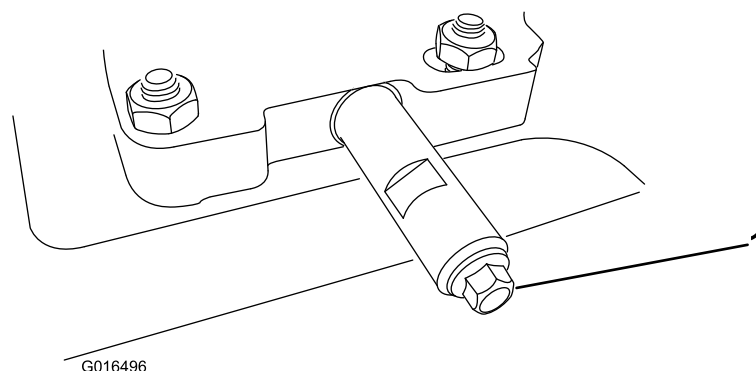

Figure 50
- Clean the area around the oil-drain cap (Figure 50).